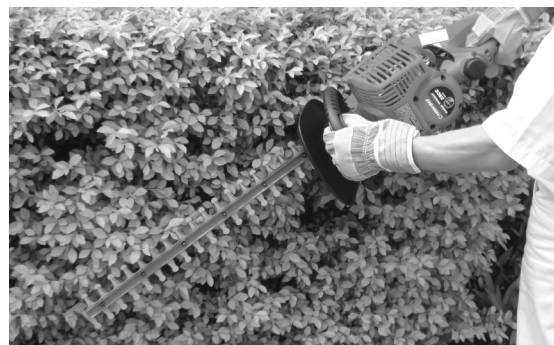

Fig. 12
4. **SIDE-TRIMMING HEDGES.** Hold the trimmer as shown and begin at the bottom and sweep up. (Fig. 12)